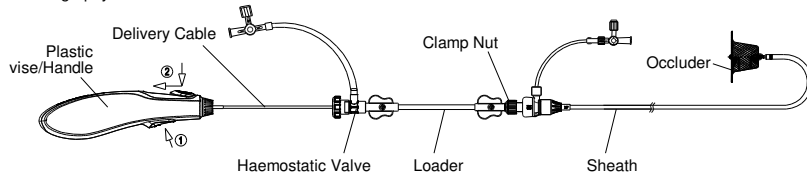

Figure 7. Illustration of releasing the occluder
- Hold the sheath to touch the hub of the occluder, and then pull back the cable gently until it separates from the occluder. Finally remove the delivery cable and sheath from the patient. (Refer to **Figure 7**)